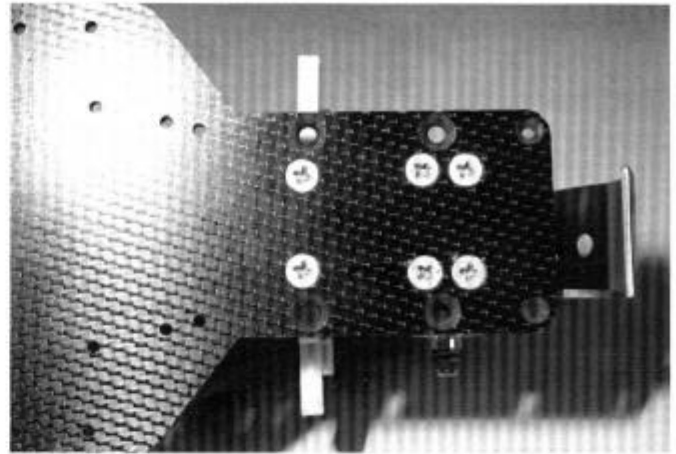

**FIG. 97**
□ **FIG. 97**—Screw on the rear body post to the transmission brace #6325 as shown.